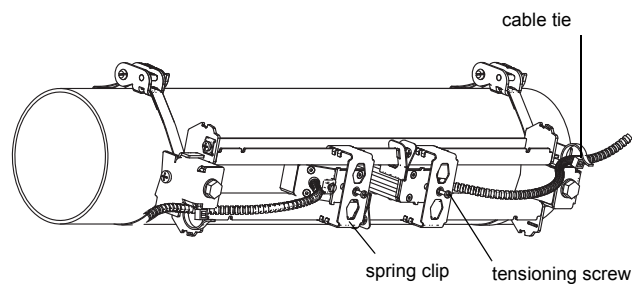

Fig. 8.42: Transducers in the rail
- Slide the spring clips on the transducers (see Fig. 8.42).
- Use a cable tie to fix the transducer cables in order to protect them from mechanical strain (see Fig. 8.42).